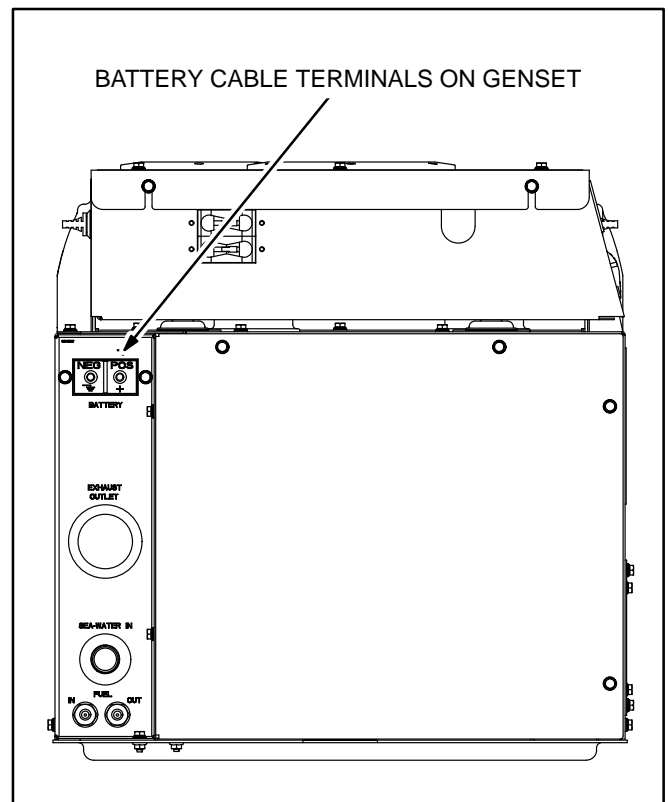

FIGURE 8. BATTERY CABLE TERMINALS
1. Keep the battery case, terminals and cables clean and dry and the terminals tight at the battery and at the genset (Figure 8).